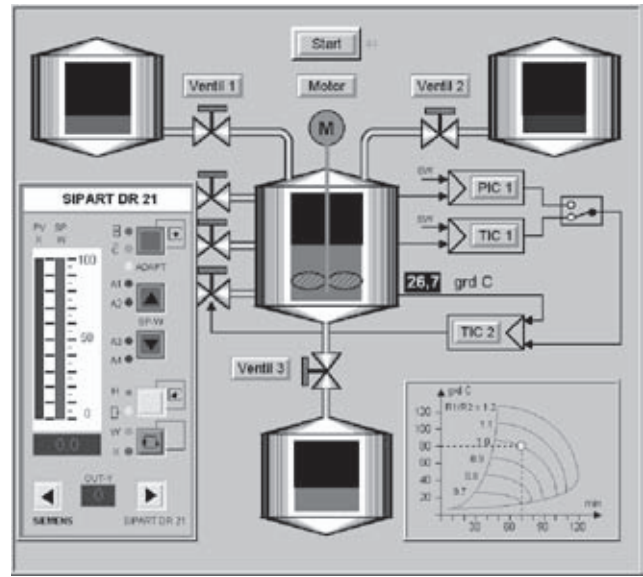

Fig. 9/4 WinCC full graphics and windows
- The SIPART DR19, DR21, DR22 "New" and DR24 "New" controllers are connected in RS 485 mode (see Fig. 9/1)